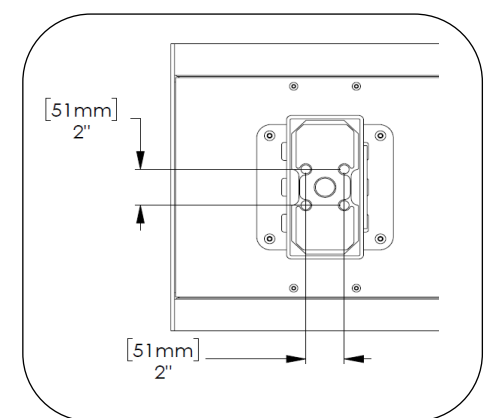

Fig. 6 – Hole locations on one column
7. Mark hole locations through access hole on columns, see Fig. 6.